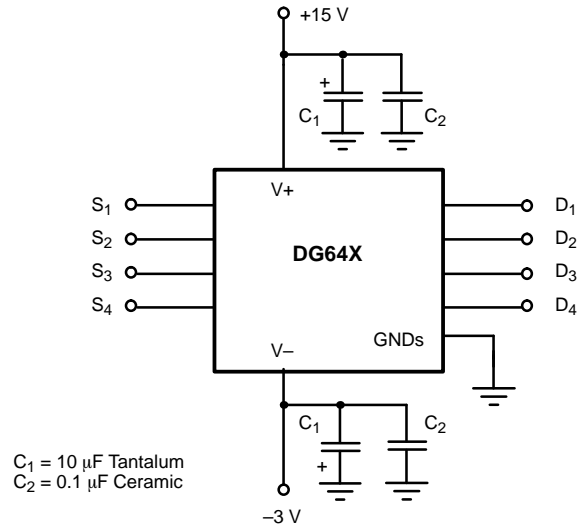

FIGURE 7. Supply Decoupling
1. Decoupling capacitors should be incorporated on all power supply pins ($V+$, $V-$). (See Figure 7).